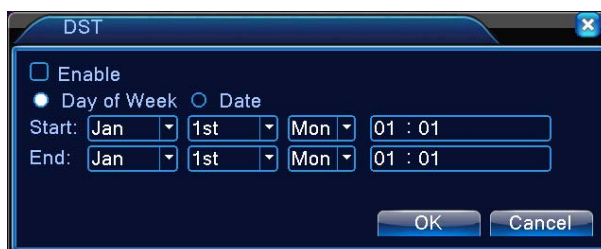
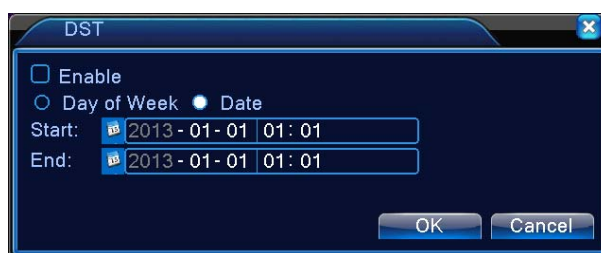

Figure 4.11 DST (Day of Week)
Figure 4.12 DST (Date)
**DST:** Click **DST**, as shown in **Figure 4.11** and **Figure 4.12**, set start time and end time of **DST** by selecting Week or Date.